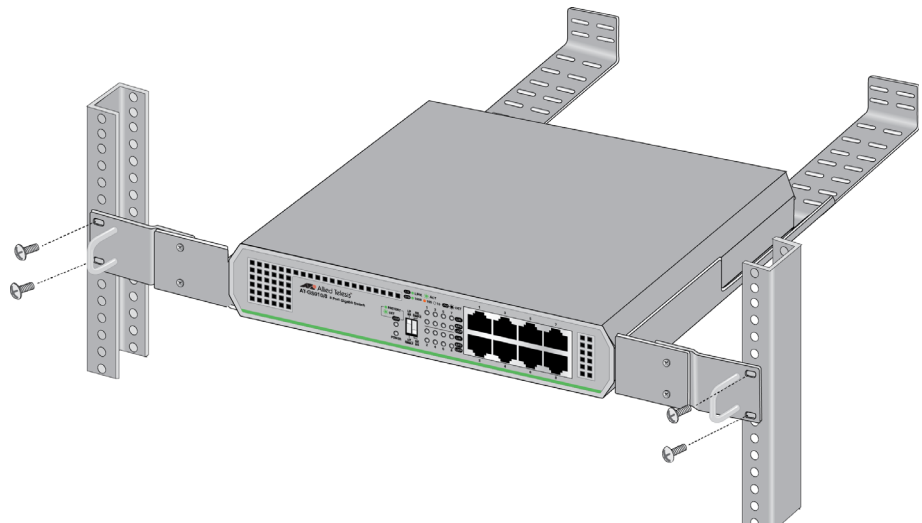

Figure 31. Attaching the Switch to Equipment Rack
7. Mount the switch in a standard 19-inch equipment rack with four equipment rack screws as shown in Figure 31 on page 53.